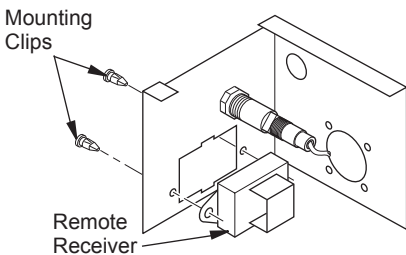

Figure 27 - Installing Remote Receiver
5. Push clips firmly into place (see Figure 27).